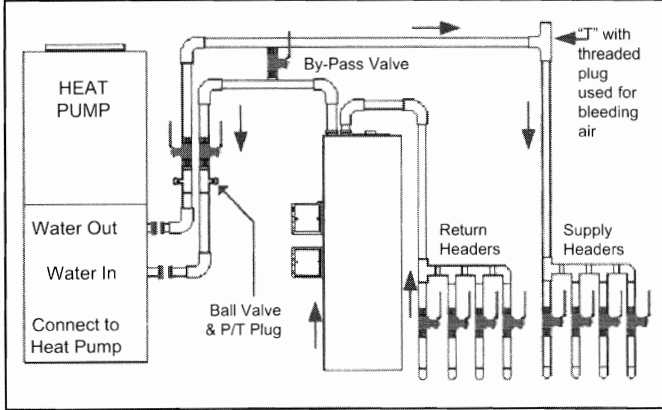

Fig. 3. Piping Schematic For Maximum Flexibility (Required With Internal Headers).
Fig. 3 illustrates a simplified piping schematic that can be utilized when an internal header is used and separate purging of the heat pump and the ground loop is not required.
4. Close all loop header valves except one pair (See Fig. 3).